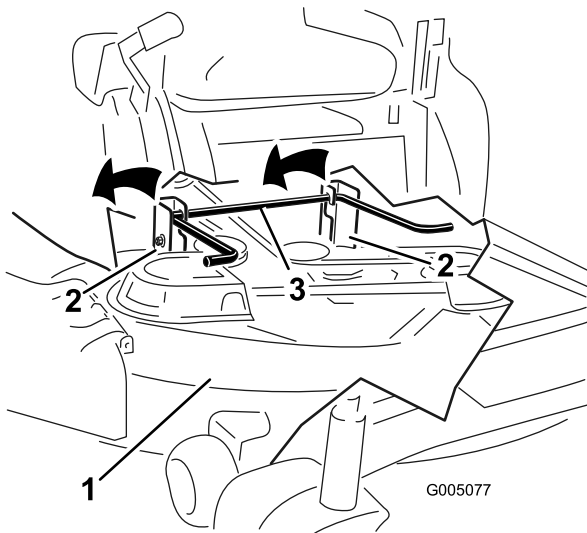

**Figure 56**
- Remove the hairpin cotter from the front support rod and remove the rod from the deck bracket (Figure 56). Carefully lower the front of the mower deck to the ground.
6. Attach the front support rod to the mower deck with the clevis pin and hairpin cotter (Figure 56).